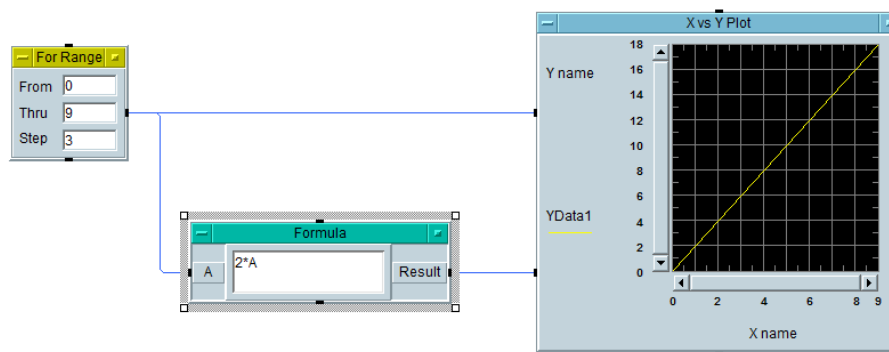

Fig. 36. For Range object
- Select **Menu Bar → Flow → Repeat → For Range**. Enter From=0, Thru=9 and Step=3 as shown in Fig. 36. This object will give 0, 3, 6, and 9 as output in sequence.
- Add a X vs Y Plot object. Make the connections as in Fig. 36 and run the program. You will observe 2A versus A for A=0, 3, 6 and 9. Since line type is solid, you see interpolated plot which seems to be continuous.